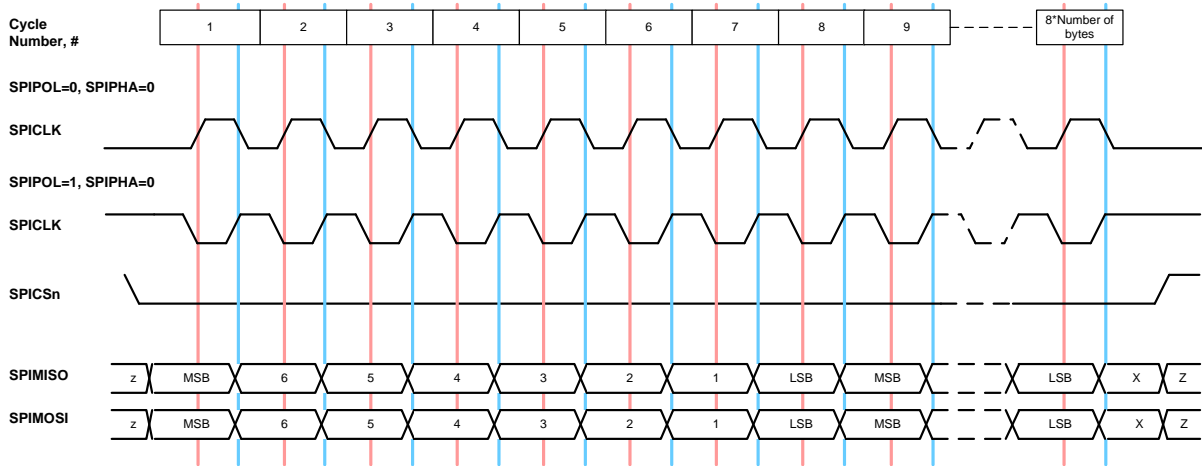
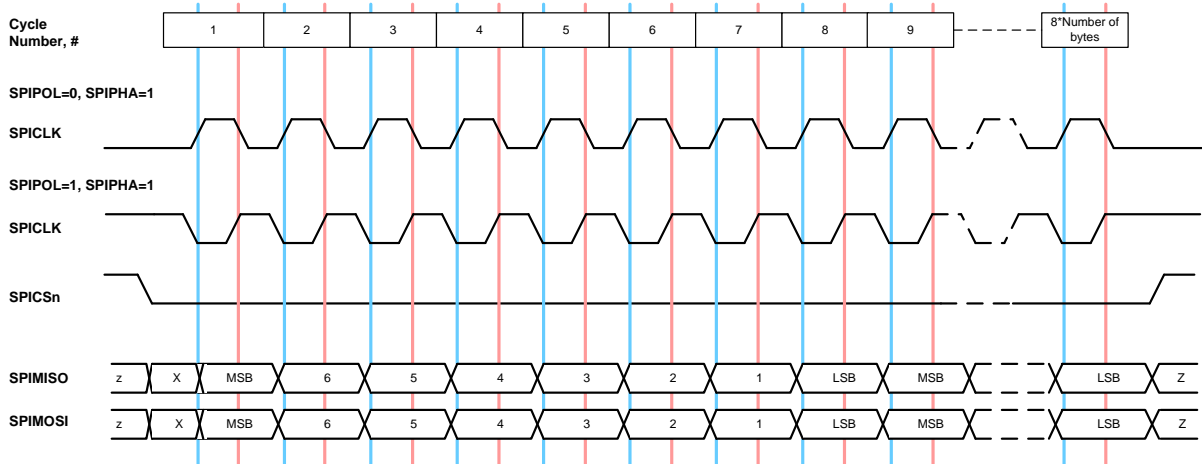

Figure 22: DW1000 SPIPHA=0 Transfer Protocol
Figure 23: DW1000 SPIPHA=1 Transfer Protocol
The DW1000 transfer protocols for each SPIPOL and SPIPHA setting are given in Figure 22 and Figure 23.
**Note: Figure 22 and Figure 23 detail the SPI protocol as defined for SPICLK polarities and phases. The sampling and launch edges used by the SPI bus master are shown. DW1000 is a SPI slave device and will comply with the protocol by ensuring that the SPIMISO data is valid on the required SPICLK edge with setup and hold times as given by Table 18.**